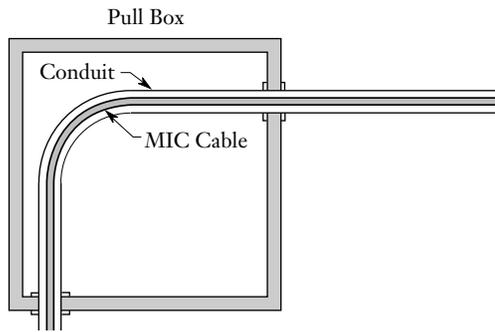

Figure 12
- Do not pull the cable through pull boxes or junction boxes unless the cable's bend radius can be maintained through the use of conduit or innerduct (Figure 12).